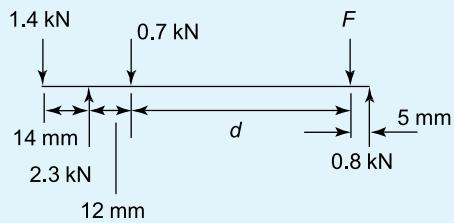

Figure 5.17
- For the force system shown in Figure 5.17, find the values of F and d for the system to be in equilibrium.